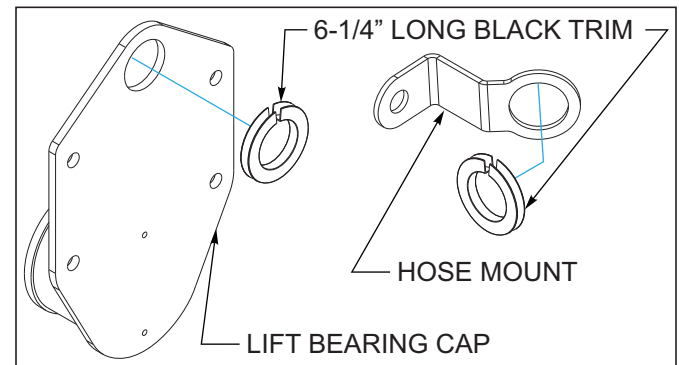

Figure 3-8: Trim Installation
8. Install a 6-1/4" long piece of black trim in the top hole of the lift bearing caps. Outer wing bearing caps do not require trim. Route rear fold and lift hydraulic hoses through bearing caps between frame sections See Figure 3-8. Install a 6-1/4" long piece of black trim in the hole of the hose mounts See Figure 3-8.